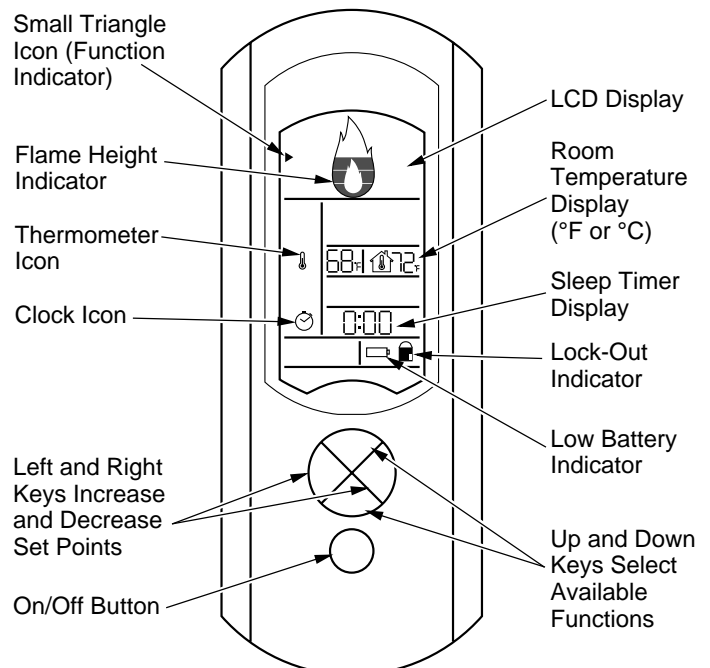

Figure 29 - Remote Control
12. Press the up or down key until the small triangle is to the left of large flame icon at the top of LCD display (see Figure 29). Press the left or right key to set the desired flame height.
2. Press the ON button on remote control (see Figure 29). Wait 5 seconds to send a command to appliance.
1. Press the up and down key until the small triangle is to the left of the clock icon (see Figure 29, page 16).
2. From time 0:00, press the left key 10 times. The display will then show the transmitter address (frequency).
Press the up or down key until the small triangle is to the left of large flame icon at the top of LCD display (see Figure 29, page 16). Press the left or right key to set the desired flame height. Six flame levels are available from 1 (minimum) to 6 (maximum).
Press the up or down key until the small triangle is to the left of the thermometer icon (see Figure 29, page 16). Press the left or right key to set the desired room temperature.
Press the up or down key until the small triangle is to the left of the clock icon (see Figure 29, page 16). Press the left or right key to set the desired sleep time. Maximum sleep time is 90 minutes, in 15 minute increments. When desired time is set, press the up or down key to start the timer. When the desired time has elapsed, the appliance will automatically switch off.
To lock the remote control keys, press the On/Off key then immediately press the up key (see Figure 29, page 16). The lock-out function is active when the lock icon is lit. Repeat key sequence to unlock keys.
A battery icon will be displayed on the LCD display when batteries are low in the remote control (see Figure 29, page 16).